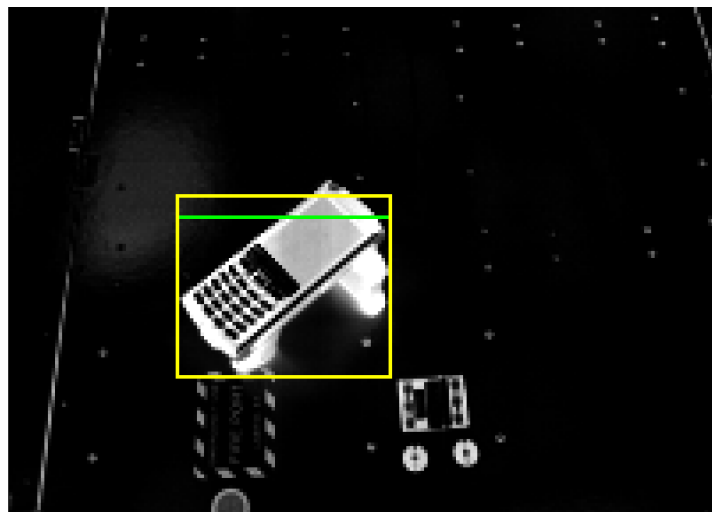

Figure 5 – The rectangle detected by “FindRect” (green) and the refined version (yellow).
- **refineRect**: most of the time the previous step returns a good initial guess, but misses part of the object. This step tries to expand (and sometimes to contract) the rectangle previously found, to include areas with a high concentration of “different” pixels and exclude areas with almost none. Figure 5 shows the result of the “FindRect” (in green) and the “refined” rectangle (in yellow). It is fine if the detected rectangle contains only a part of the object, but the larger its area is, more positions will be pruned in the second (main) evaluation loop.
- Main Loop:** the second loop uses all remaining time. It has 3 subdivisions: the first one runs until 80% of the time, and tests random positions that contains at least 90% of the ROI rectangle (shown in yellow in Figure 5). This verification is done by translating, rotating and projecting in 2D only the corners of object's 3D bounding box. Also positions that 3D coordinates are outside the "expected" bounds (taken from examples ground truth) are discarded. This pruning is crucial: in the case of the image shown in Figure 5, about 4.5M positions are discarded, while only 90K are evaluated. In the next two phases, instead of using random positions, it uses "neighbor" positions, by translating and rotating by a small value the best position found so far. The third (and last) phase uses an additional step inside the evaluation function, to make it more precise (described later).